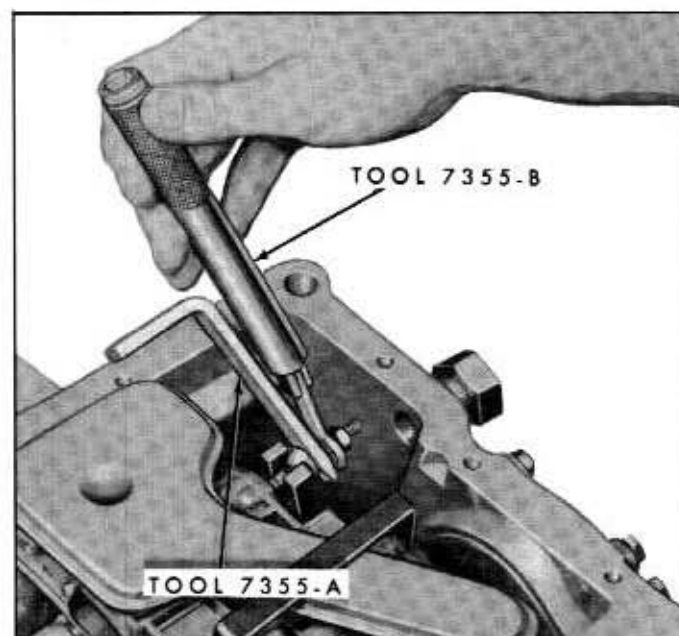

Fig. 7A-41—Adjusting Reverse Band—(60C-4441)
2. Install the control valve body to case bolts (figure 7A-7) and torque them to 8-10 lbs. ft.